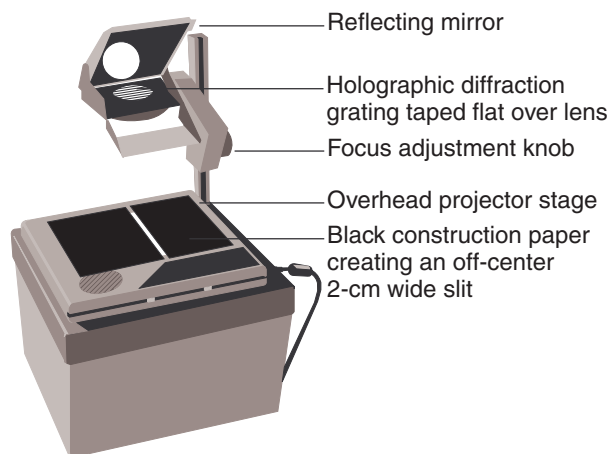
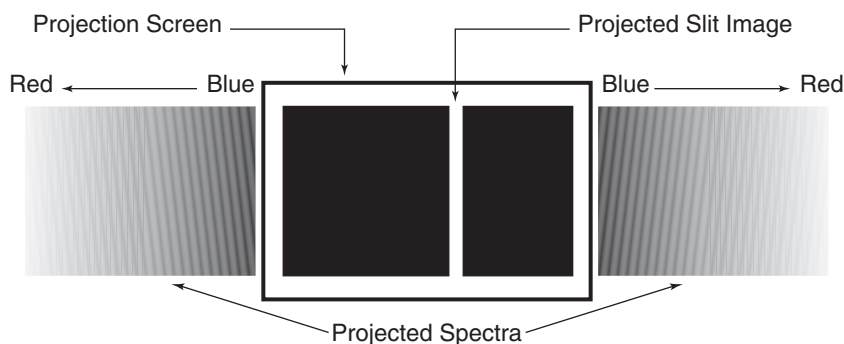

Figure 1. Overhead Projector
Figure 2. Projected Spectra
2. Form a 2-cm wide slit in the center of the stage of the overhead projector using two sheets of black construction paper. Position the slit on the stage so that the image of the slit projected onto the projection screen is vertical (refer to Figures 1 and 2).
3. Place the holographic diffraction grating film above the lens of the overhead projector (see Figure 1). Wear gloves when handling the diffraction grating. If the spectra are not projected to the left and right of the screen, rotate the diffraction grating 90 degrees (the alignment of the grating is important). Once two bright spectra (mirror images of each other) are displayed horizontally to the left and right of the film screen (see Figure 2), the diffraction grating should be secured to the lens with tape. Tape only the outside edges of the diffraction grating and make sure the diffraction grating is flat.